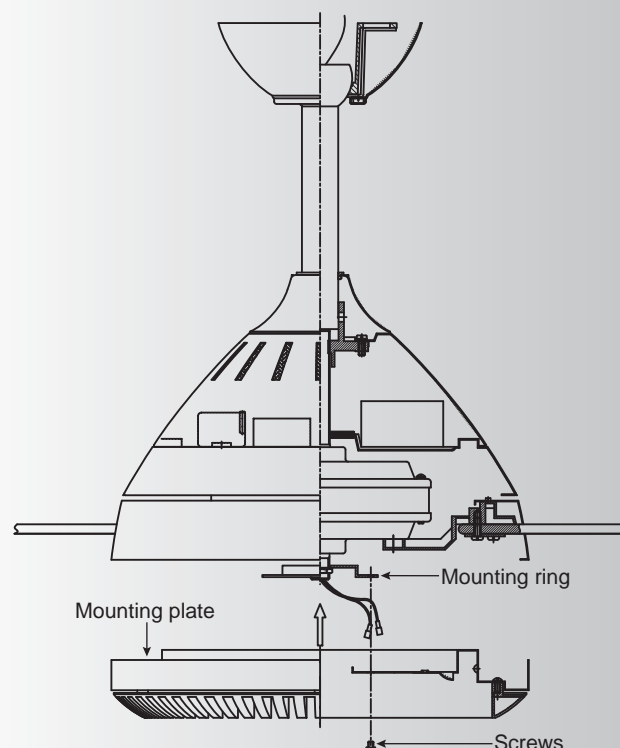

Fig. 15
1. Loosen the two screws on the mounting ring attached to the motor shaft and "remove" and save the third screw. (Fig. 15)